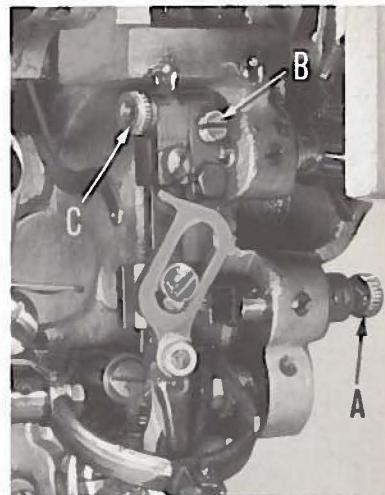
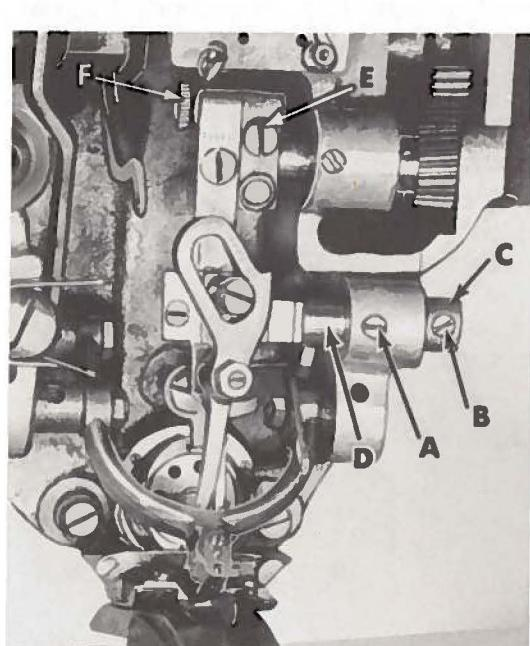

Fig. 19
Fig. 19A
A straight two thread stitch, instead of an overcast stitch, may be formed by removing the looper and spreader mechanism. On machine Styles 16-260, -265 and -420, this may be done by removing screw (A, Fig. 19), loosen screw (B) and remove looper crank stud (C). On all other machine Styles, loosen screws (A and B, Fig. 19A), remove collar (C) and eccentric bushing (D). Loosen screw (E) and remove looper crank stud (F). The looper and spreader mechanism can now be removed.